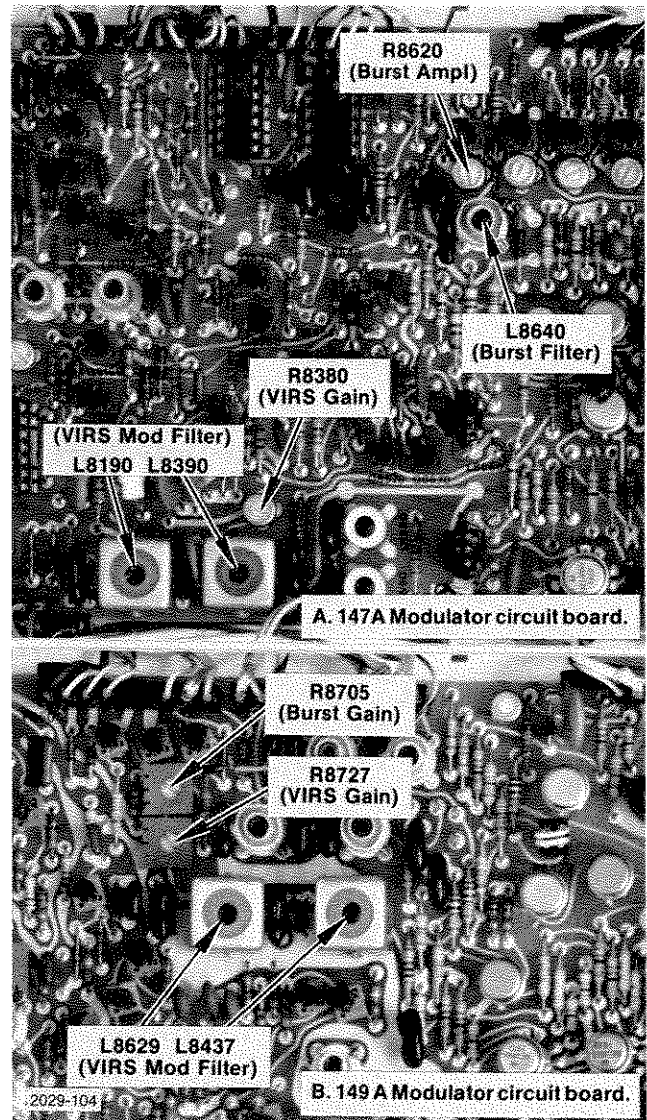

Fig. 3-35. Burst and VIRS modulation adjustment locations.
**ADJUST**—R8705 (149A) or R8620 (147A), (Burst Ampl), see Fig. 3-35, for a peak-to-peak Burst amplitude of exactly 285.7 mV (40 IRE).
**ADJUST**—R8280 (147A) or R8727 (149A), (VIRS Gain), see Fig. 3-35, for VIRS chrominance amplitude of exactly 285.7 mV (40 IRE).
**ADJUST**—L8190 and L8390 for the 147A, or L8629 and L8437 for the 149A (VIRS Mod Filter), see Fig. 3-35, for the best front corner and a risetime of  $0.85 \mu\text{s}$  to  $1.15 \mu\text{s}$  ( $1 \mu\text{s}$  within 15%).
**ADJUST (147A only)**—L8640 (Burst Filter), see Fig. 3-35, for the best front corner on the burst, and for risetime between 323 ns and 431 ns (375 ns within 15%).